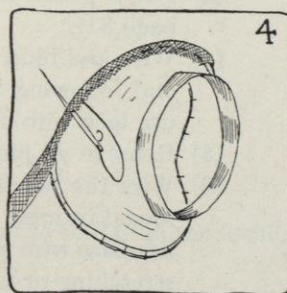

FIG. 4.
- (2) You may have to ease it in a bit at the headsize (see Figure 4 of Job 10, page 44).
- (1) Cut a bias of crinoline or of mull or of some other thin material 1 inch wide and long enough to go around the brim. If you use pieces, do not seam them, just lap them.
- (2) Place this bias of material over the edge wire starting at the back.
- (3) Stretch the bias as you go, and sew with basting stitches near the cut edge of the bias (see Figure 4). This binding will keep the wire from showing through the outer material after the brim is covered.